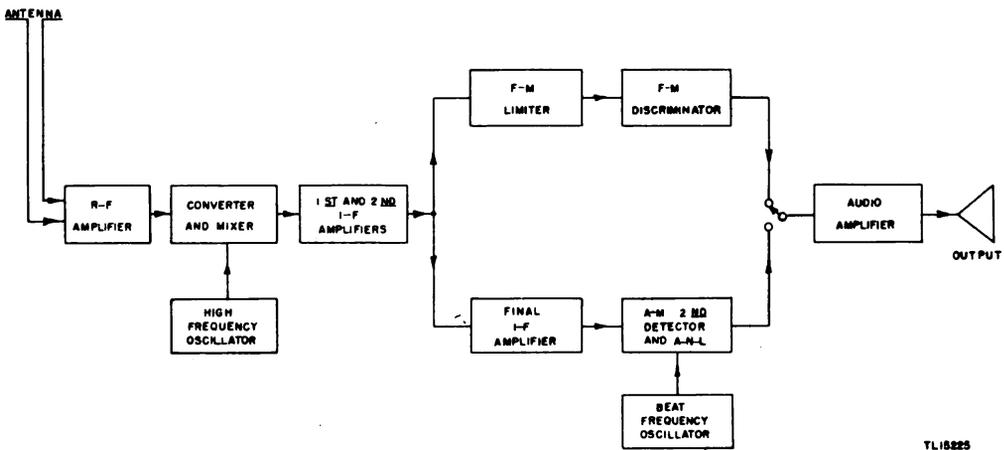

Figure 6. Radio Receiver BC-787-B, block diagram.
**b. F-m Signal Reception.** When receiving f-m signals the circuit consists basically of a stage of tuned radio-frequency amplification, a converter stage, a high-frequency oscillator, two stages of intermediate amplification, limiter, discriminator, tuning indicator, audio-frequency voltage amplifier, and a push-pull audio-frequency power amplifier. The block diagram in figure 6 illustrates the above circuit arrangements.